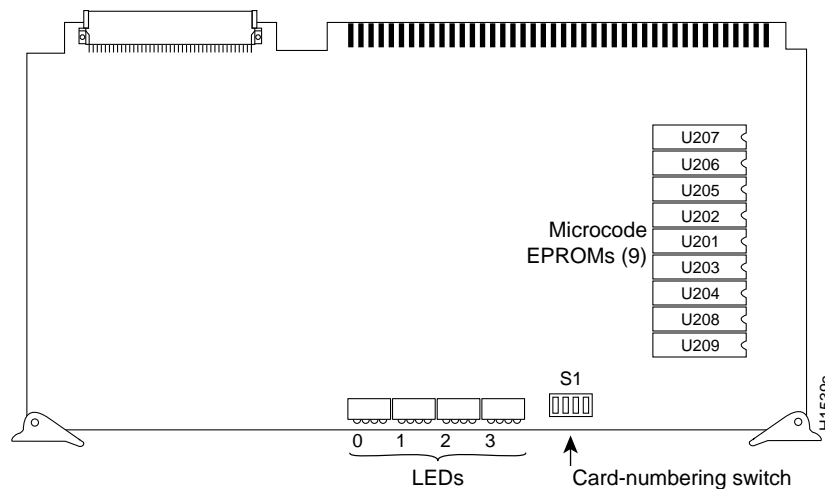

Figure 3 CSC-CCTL ciscoBus Controller Card—Component-Side View
- Step 1** Remove the CSC-CCTL card from the card cage, and position it as shown in Figure 3. It may be necessary to first disconnect interface cables that are blocking the CSC-CCTL card. Note their position for reassembly.